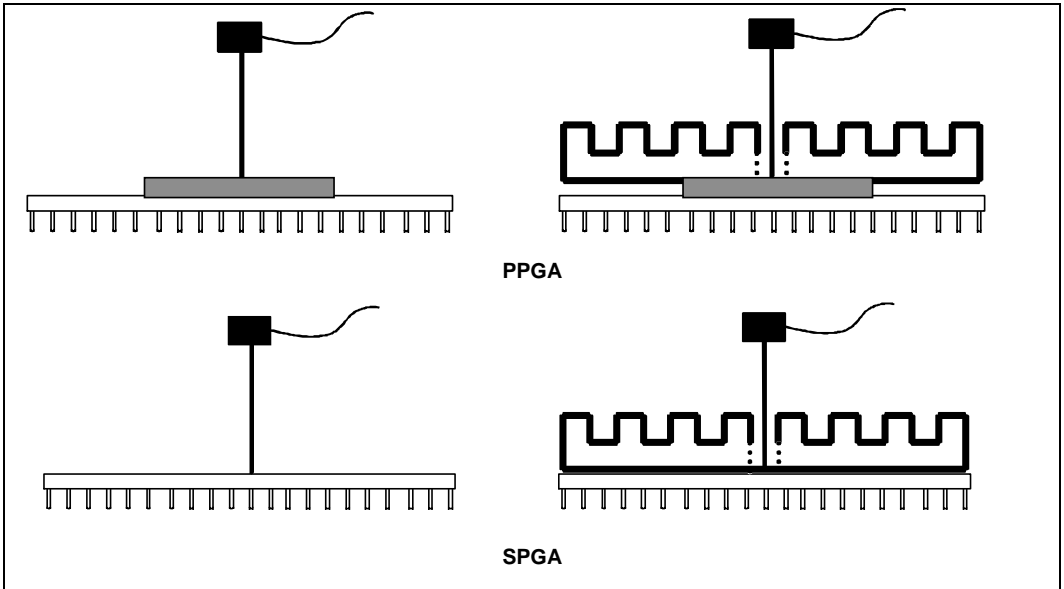

Figure 14. Technique fore Measuring  $T_c$  on PPGA and SPGA Packages
To verify that the proper TC is maintained, it should be measured at the center of the package top surface (opposite of the pins). The measurement is made in the same way with or without a heatsink attached. When a heatsink is attached, a hole (smaller than 0.150" diameter) should be drilled through the heatsink to allow probing the center of the package. See Figure 14 for an illustration of how to measure TC.
- The thermocouple should be attached at a 90-degree angle as shown in Figure 14.